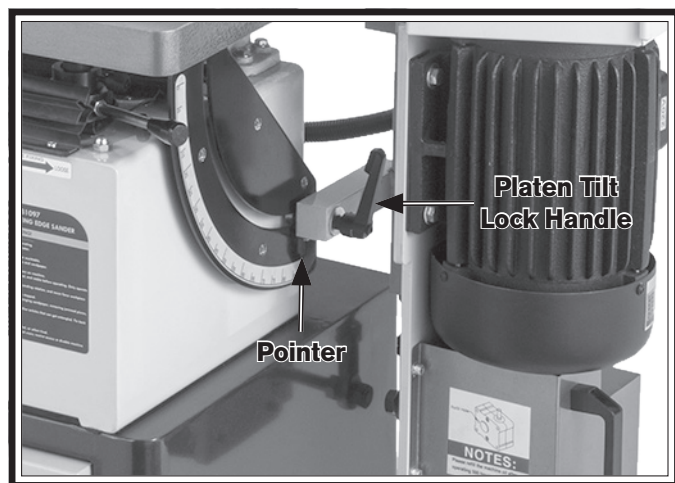

Figure 13. Platen tilt lock handle location.
1. Loosen platen tilt lock handle and tilt platen until tilt pointer points to 90° (see **Figure 13**).